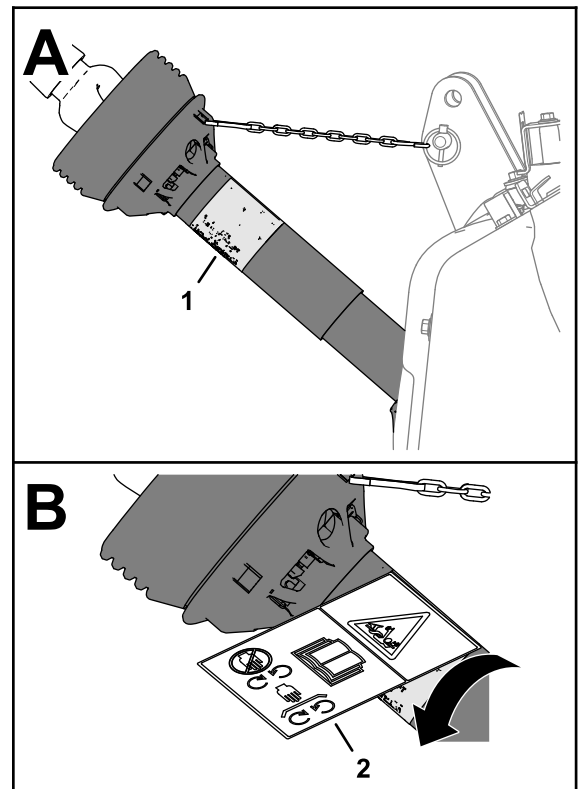

Figure 19
1. Rotate the shaft guard to access the existing entanglement decal (Figure 19).
4. Place the CE entanglement decal over the existing entanglement decal (Figure 19).